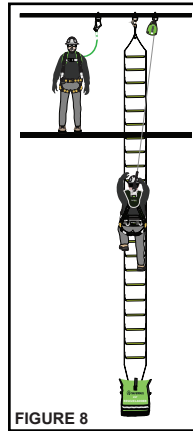

FIGURE 8
5. Once the Rescue Ladder is deployed, the fall victim can begin climbing the Rescue Ladder to safety (See Figure 8).